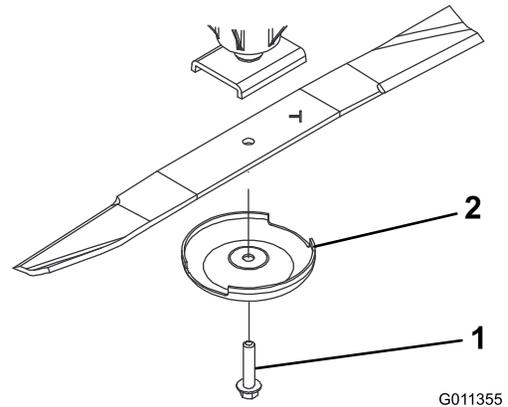

Figure 65
- Grasp the end of the blade using a rag or thickly-padded glove. Remove the blade bolt, anti-scalp cup, and blade from the spindle shaft (Figure 65).
- Install the blade, sail facing toward the cutting unit, with the anti-scalp cup and blade bolt (Figure 65). Tighten the blade bolt to 115–149 N-m (85–110 ft-lb).